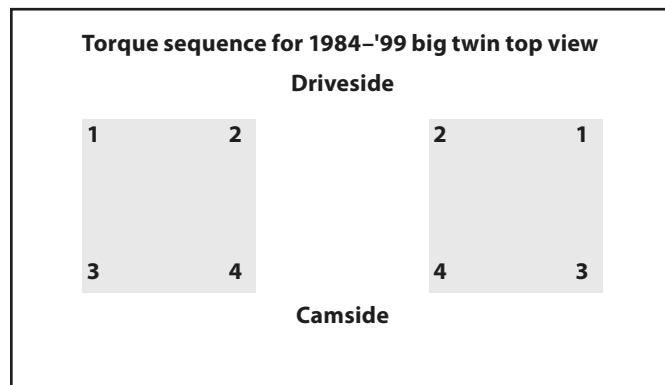

Figure 7
- Bolt heads on cylinders. Tighten bolts in stages using crossing pattern. **See Figure 7.** If using stock crankcases, follow the same bolt tightening sequence, but use stock three stage procedure and torque values shown. If using other aftermarket crankcases, contact the manufacturer for recommended head bolt torque specifications.